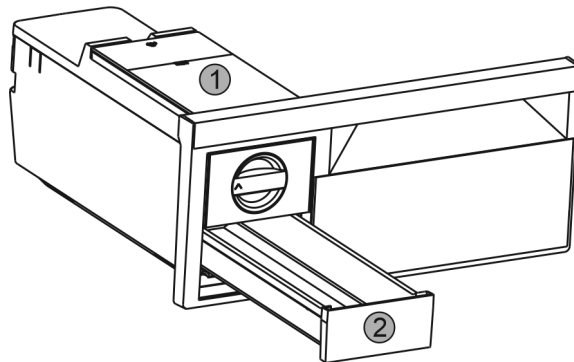

Fig. 69
- ▶ Take out the water tank *Fig. 69 (1)* and ice cube drawer *Fig. 69 (2)*.